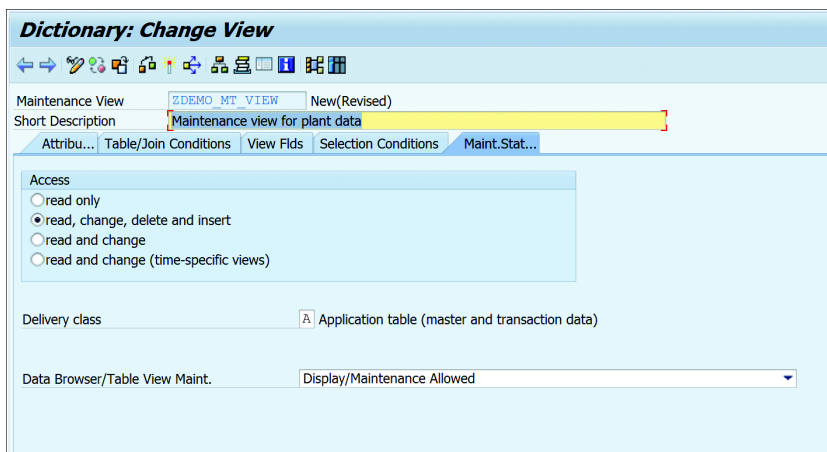

Figure 10.43 Maintenance Status
4. Under the MAINTENANCE STATUS tab, you can select the access type, as shown in Figure 10.43: